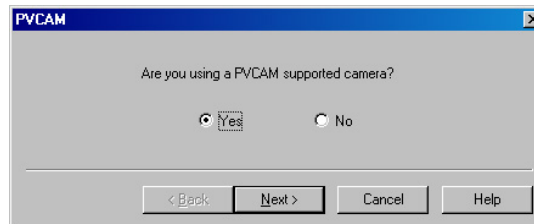

Figure 58. Hardware Wizard: PVCAM dialog box
6. When the PVCAM dialog box (Figure 58) is displayed, click in the **Yes** radio button, click on **Next** and continue through the wizard. After the wizard is finished, the **Controller/Camera** tab card will be displayed with the **Use PVCAM** checkbox selected. You should now be able to set up experiments and acquire data.